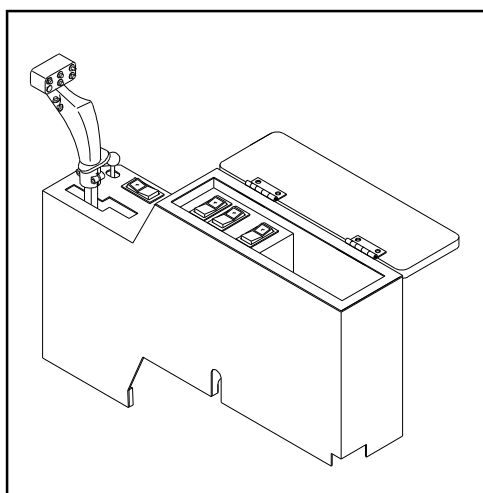
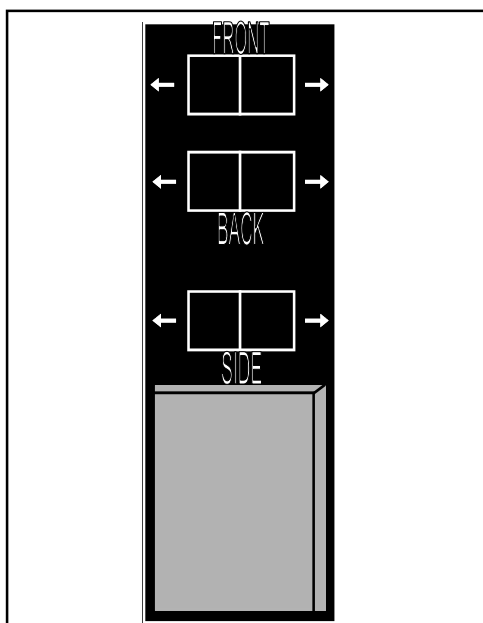

FIG 5.6
FIG 5.7
1. Locate switch panel under lid of seat-mounted console (fig. 5.6) and select the button marked "SIDE" (fig. 5.7). Depressing either side of the button will select the corresponding side of tread to be adjusted.